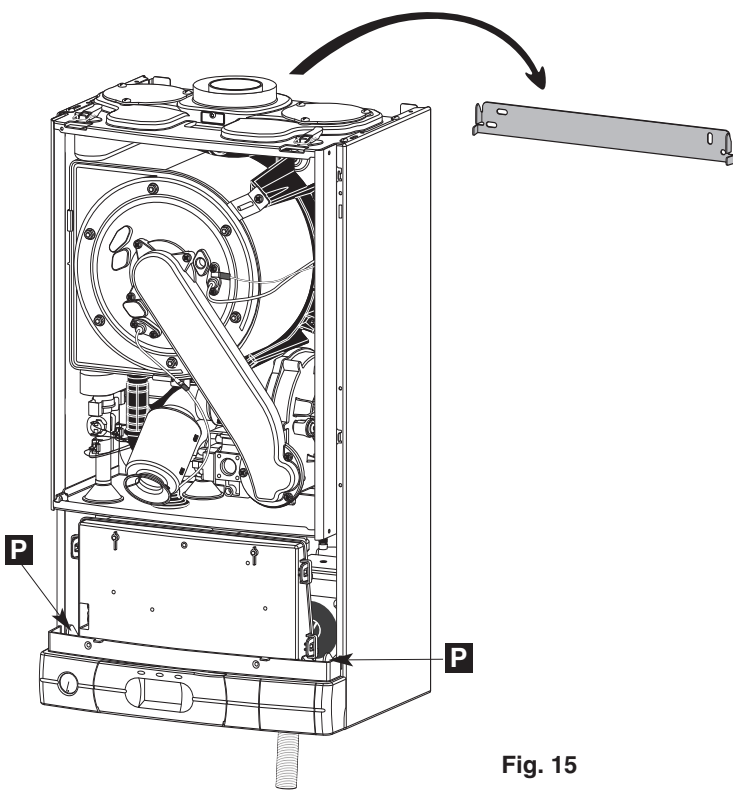

Fig. 15
Place the boiler on the wall on the hanging bracket (Fig. 15).
- Push in the tabs "P" (Fig. 15) on either side of the boiler and pivot the electrical box forward to gain access to the valve connections